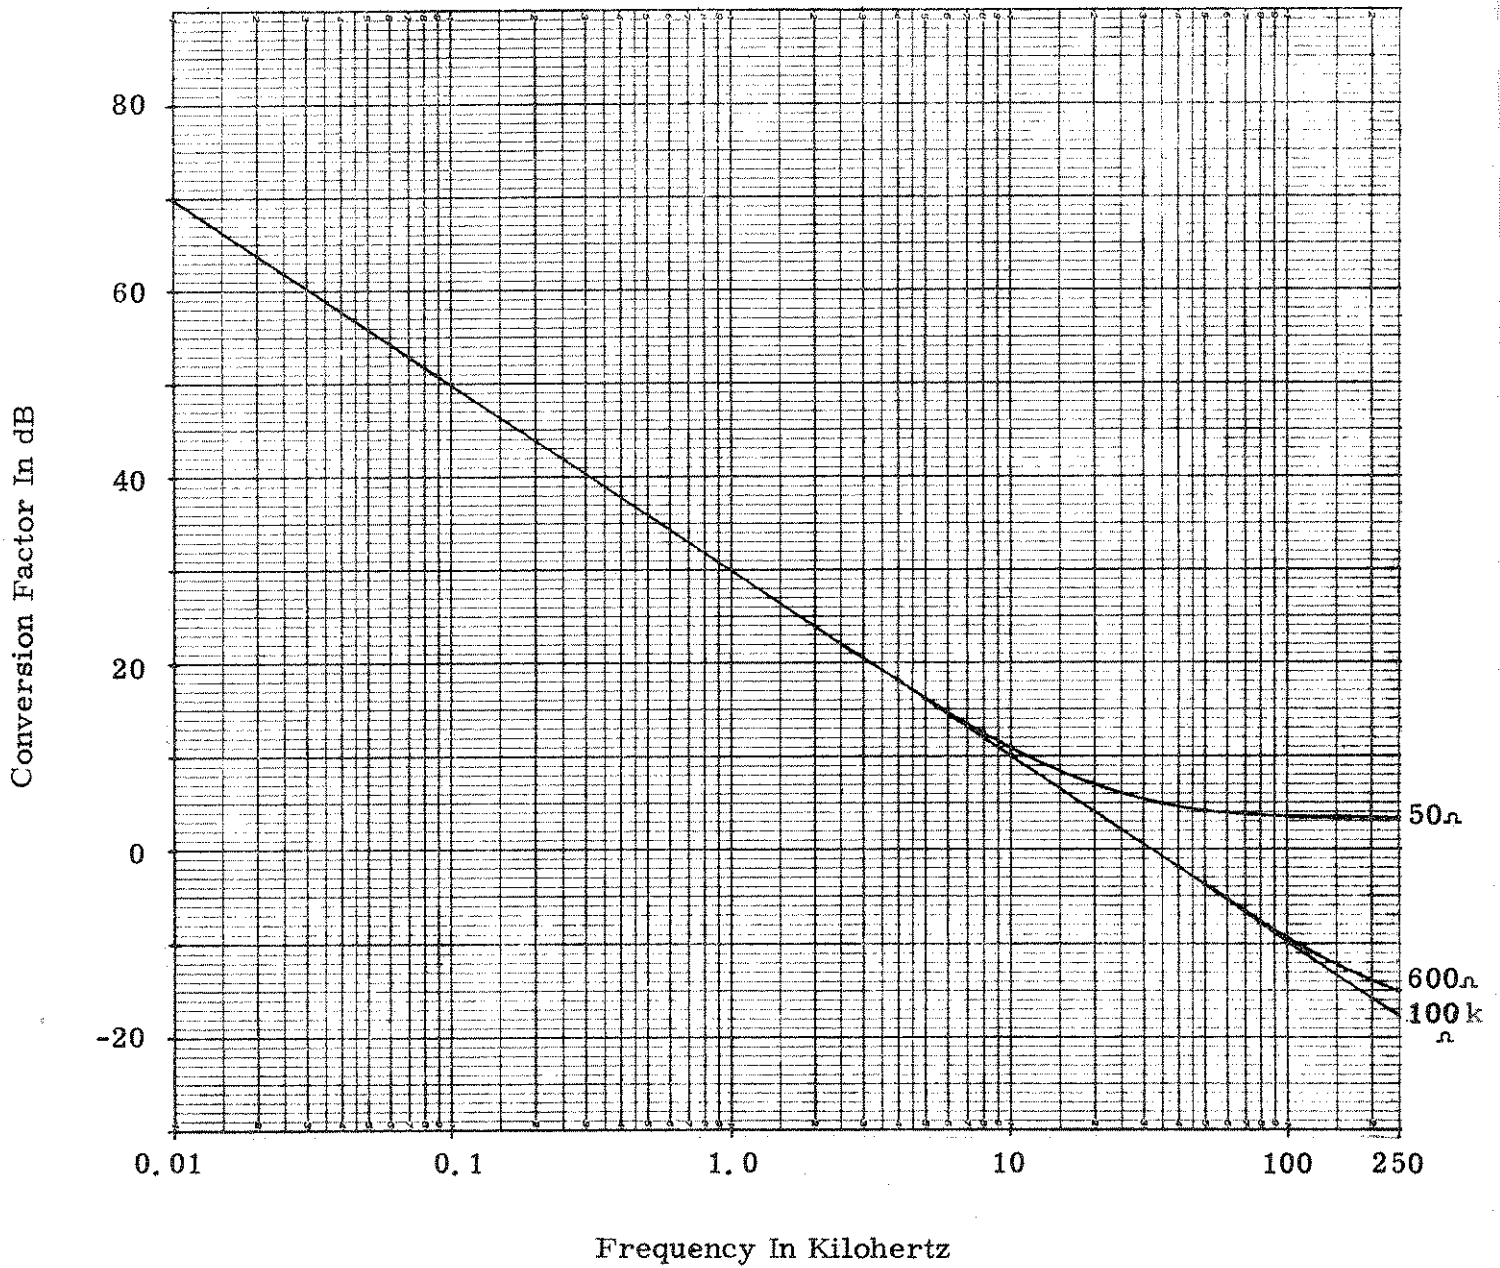
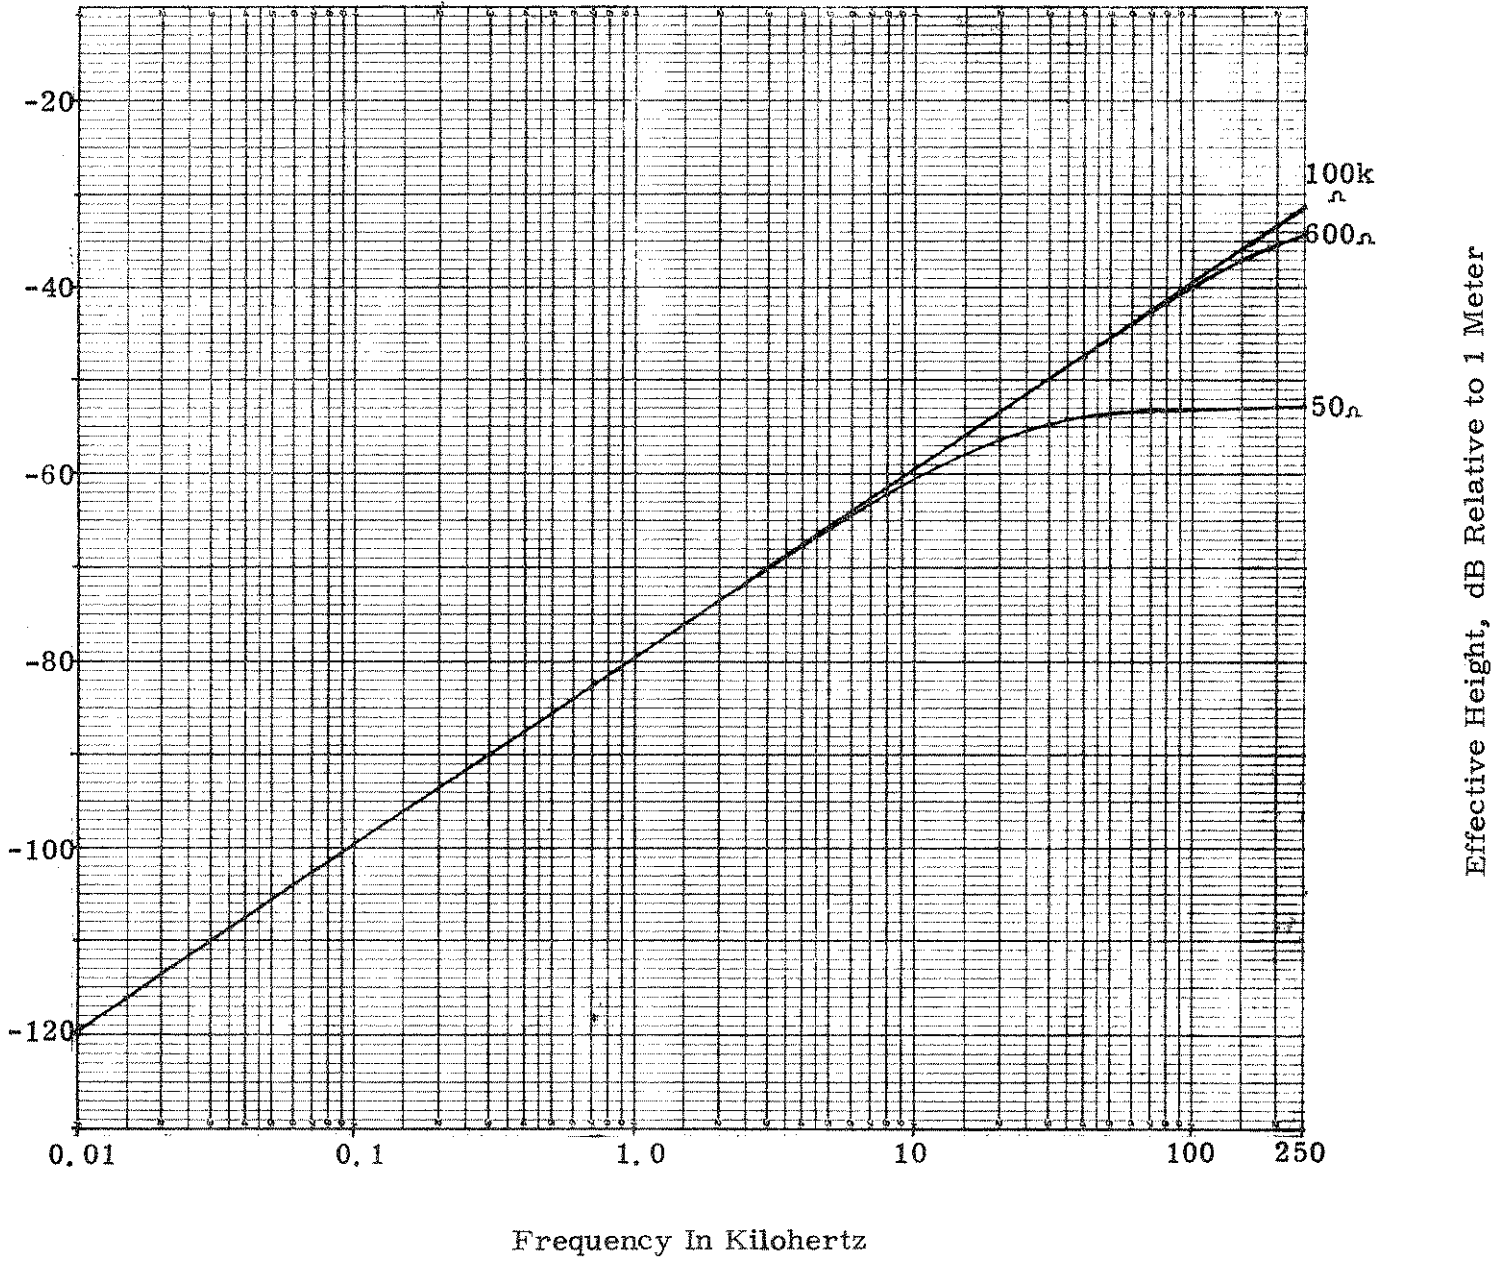
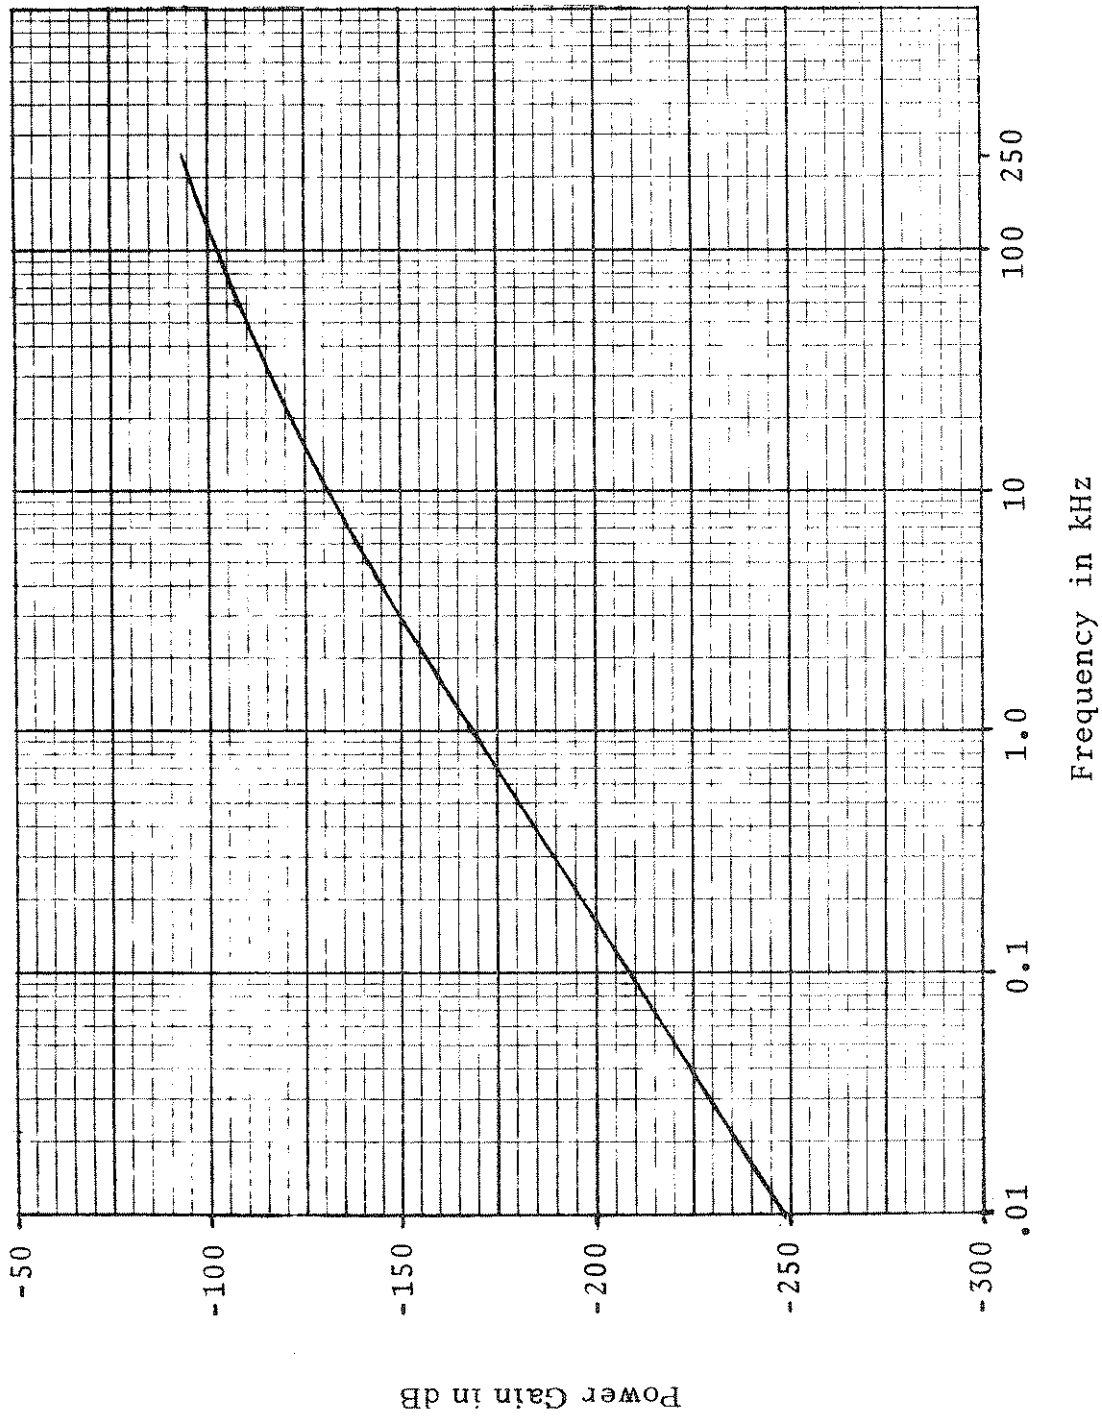

Figure 4-1
Figure 4-2
Figure 4-3. Power Gain Versus Frequency
Antenna effective height:	See Figure 4-1
Magnetic Flux Density in Picotesla (pT) or Electric Field Strength (E vector) in microvolts-per-meter ($\mu\text{V}/\text{m}$) can be determined by applying the factors of Figures 4-1 and 4-2 to the signal induced voltage at the loop antenna terminals. Several related radiated emission terms are shown in Table 4-2 and conversion values are given for easy changing from one term to another. Figure 4-3 provides power gain versus frequency information. Table 4-1 gives RF field strength information when using the loop as a signal source. The direction or bearing of a signal source can be determined by rotating the Loop Antenna for a null output on the signal, an advantageous use of the Figure 8 radiation pattern of a loop antenna.
- c. Algebraically add the Conversion Factor in dB at the test frequency as indicated in Figure 4-1 to obtain the magnetic flux density in dB relative to one picotesla (dBpT).
Use the Figure 4-1 graph curve that corresponds to the input impedance of the measuring instrument. Use the lowest input impedance available on the measuring instrument for best overall signal-to-noise ratio (applies when a transformer input design is used).
Assume a measuring instrument reading of 55 dB μ V at a frequency of 50 kHz. Assume the input impedance of the measuring instrument to be 50 ohms. From Figure 4-1 the conversion factor is 4 dB. The Magnetic Flux Density (B) in dB above one picotesla is:
- c. Algebraically subtract the effective height of the Loop Antenna in dB above one meter at the test frequency as indicated in Figure 4-2 to obtain the radiation level or RF field intensity in dB above one microvolt-per-meter.
Use the Figure 4-2 graph curve that corresponds to the input impedance of the measuring instrument. Use the lowest input impedance available on the measuring instrument for best overall signal-to-noise ratio (applies when a transformer input design is used).
to be 50 ohms. From Figure 4-2 the effective height is -55 dB. Then the Electric Field Intensity (E) in dB above one micro-volt-per-meter is:
Refer to Figure 4-3 for power gain in dB versus frequency. Refer to Paragraph 5-3 for information on determining power gain.
Figure 4-2 graph was developed using the above effective height formula. Figure 4-2 shows "h" to be linear with frequency to 250 kHz when the load impedance is 100,000 ohms or greater. The Model 94608-1 Loop Antenna internal impedance is very low compared to 50 ohms at frequencies below 5 kHz. Therefore, a Loop Antenna terminal loading of 50 ohms provides essentially open-circuit voltage. Above 5 kHz the loop internal impedance increases in value with frequency and the external loading increasingly affects the loop output voltage. The loop output departs from the unloaded condition by the amount that the "apparent" effective height departs from the straight line (depending on value of load). The same situation applies to the Figure 4-1 graph.
Loop antenna correction factor (ACF) is derived from the Conversion Factor (K) in dB from Figure 4-1 plus 49.5 dB, see o dBpT Table 4-1.
Antenna power gain (Figure 4-3) is derived from the ACF using the following formula:
At 10 kHz (Figure 4-1) the conversion factor is +11 dB for 50 ohm loop loading. The ACF is: